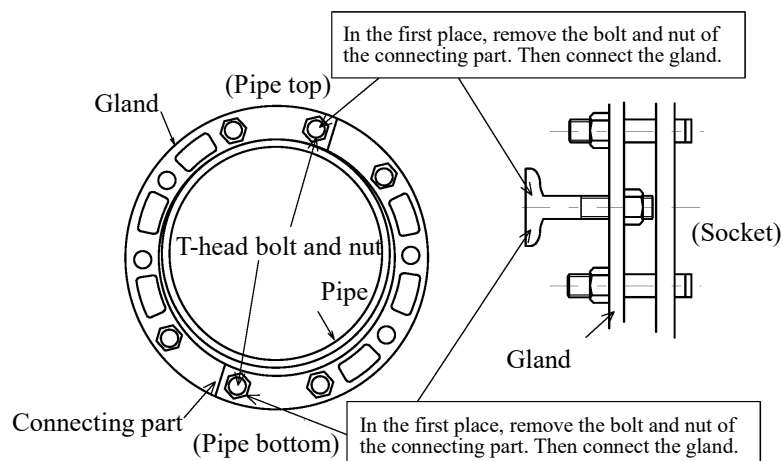

Figure-46 Removing gland (for 28" to 40" pipe)
- 2) For 28" to 40" pipe, remove the bolts and the nuts at the connecting part (on the pipe top and bottom) first, and then connect the two parts of the gland with these bolts and nuts at the connecting part as shown in Figure-46. After that, remove the remaining bolts and nuts.